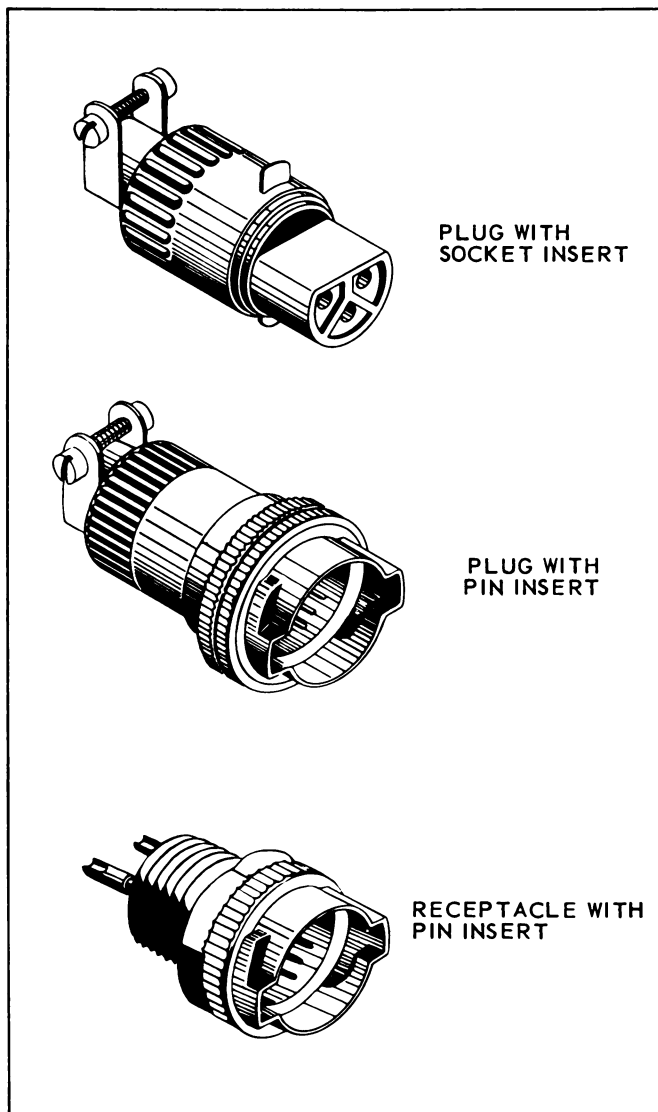

Figure 3-10. Sub-Miniature Connector
c. Subminiature connectors (Cannon U and Amphenol "26" series). See Figure 3-10. These are wire connecting types only; have no flanges for mounting, but can be mounted with nut and lockwasher; used on miniature instruments, switches, relays, transformers, amplifiers, etc. They consist of steel shell, resilient or vitreous inserts and pin-and-socket contacts. Plug and receptacle are held together by bayonet type lock. Plug has a resilient (silicone compound) sleeve to protect and support wiring. These connectors are always potted to provide moisture proofing.